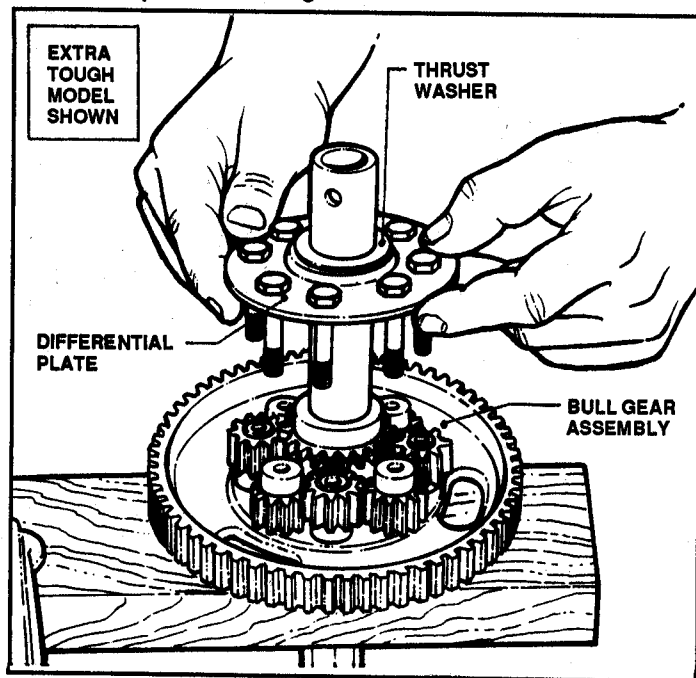

FIGURE 4.21
24. Remove the thrust washer and differential plate. See Figure 4.21.
20. Install thrust washer over end of short axle (This washer serves as a bearing surface between the bullgear assembly and the bearing in the R.H. fender). Refer to Figure 4.21.